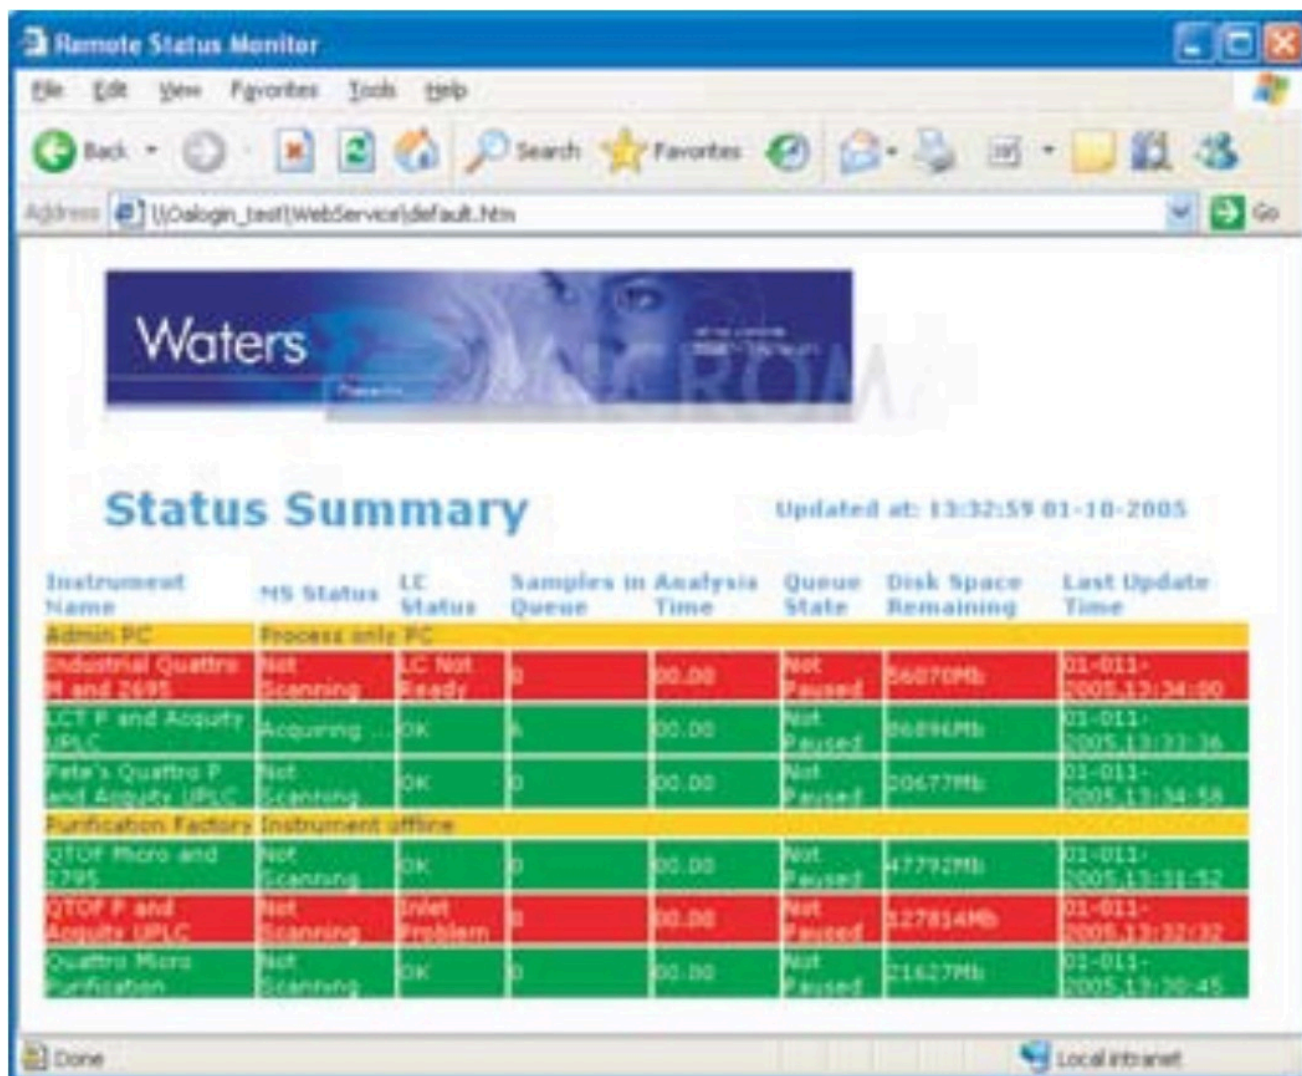

Figure 5. Remote Status Monitor.
- Remote Status Monitor (Figure 5) – Enables any user to monitor the status of Acquisition PC s and their batch queues from a single PC